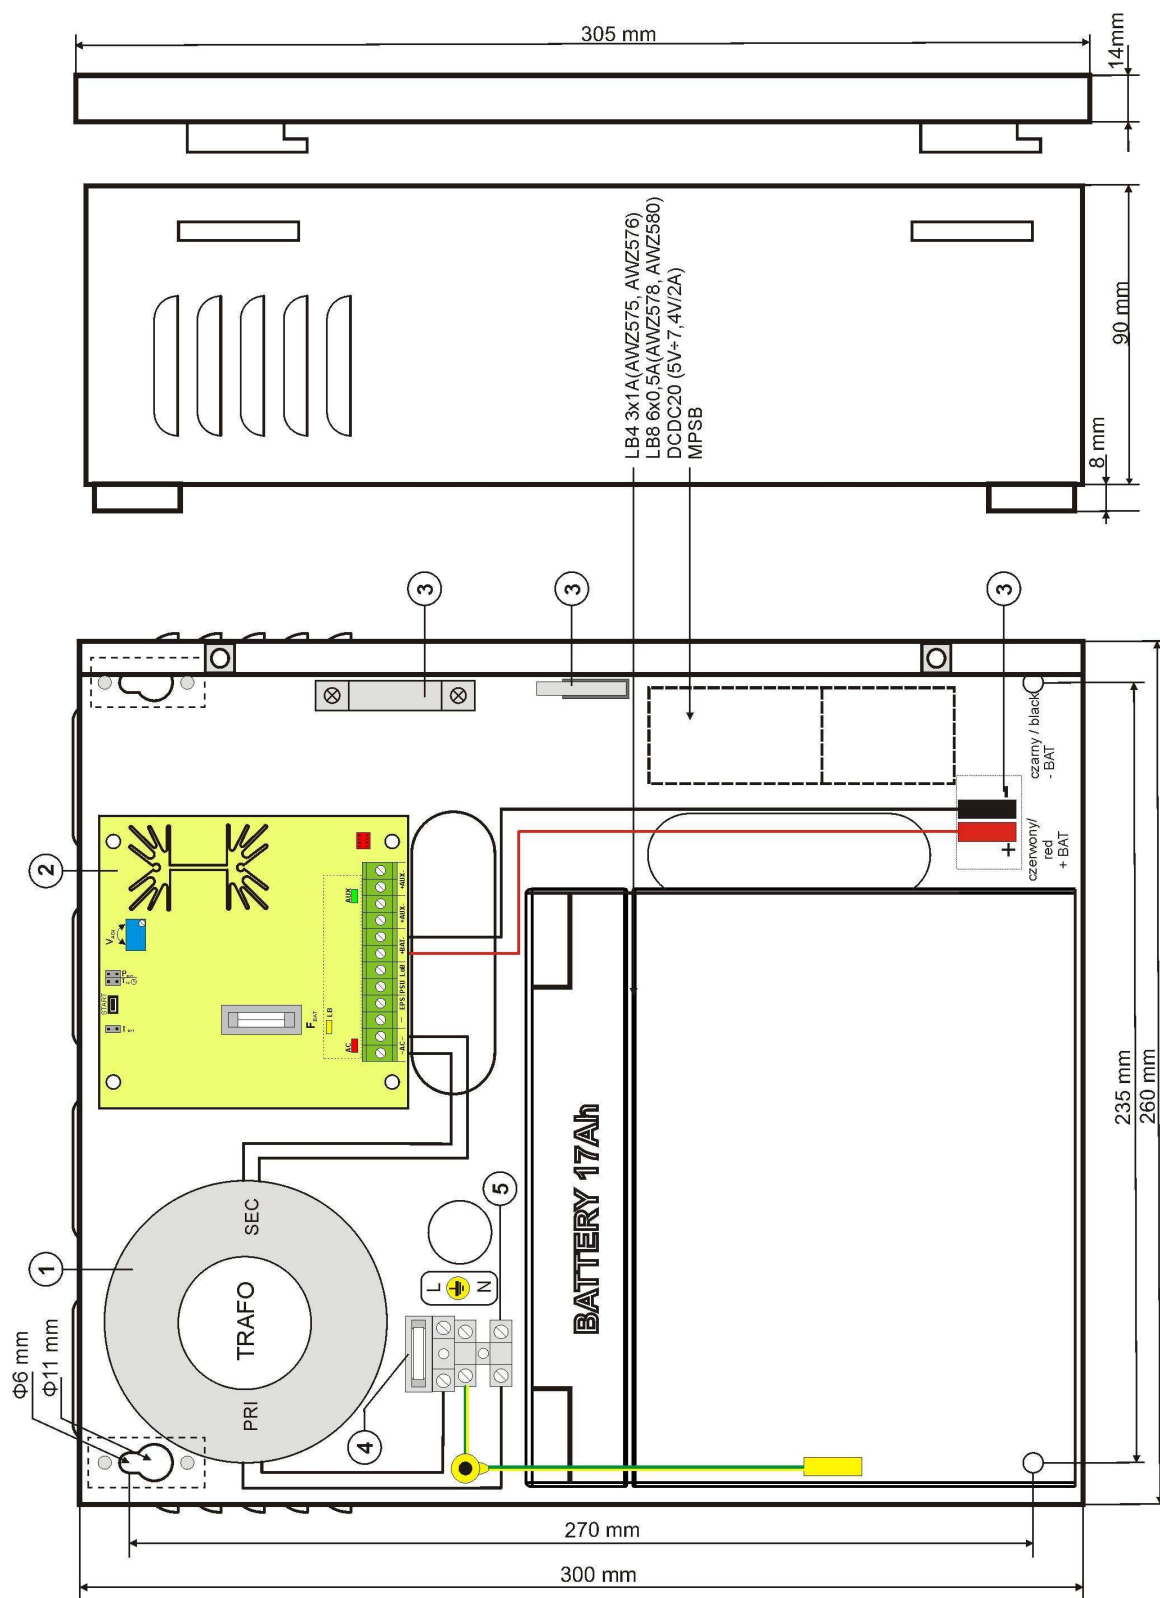

Fig.3. The view of the PSU.
Table 2. Components of the PSU (See Fig. 3).
8. Mount the battery in the battery compartment of the enclosure (Fig. 3). Connect the batteries with the PSU paying special attention to the correct polarity.